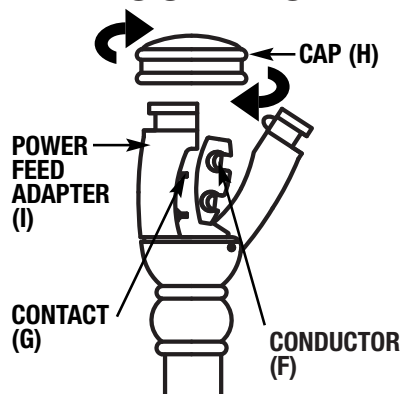

FIGURE 2
1. Attach mounting bar (A) to outlet box using outlet box screws (not supplied).
2. Make wire connections with wire nuts or other UL recognized wiring device. White power feed wire to white house supply wire. Black power feed wire to black house supply wire. Wrap the house ground wire around the green grounding screw (K) on the mounting bar (A) and secure by tightening the green grounding screw (K). Make sure no wires are left exposed and carefully tuck wires into outlet box.
3. Slide canopy (E) over outlet box and secure by threading retaining ring (C) to canopy (E).
4. Loosen screw on swivel joint (D) and adjust power feed so it hangs perpendicular to the floor. Tighten screw on swivel joint (D) to set in place. We recommend using a level to set power feed properly.
5. Unthread cap (H) from power feed adapter (I). Install rail into rail adapters so conductors (F) face contacts (G) of power feed (see Fig 2). **\*Please make sure contacts (G) fit into the rail conductors (F) properly.** NOTE: If power feed or support adapters are not able to close around rail, turn rail around so rail fits properly (see fig. 2).
6. Close the hinged side of power feed adapter over rail. Use a phillips head screw driver to tighten ground screw (located on power feed adapter (I)) into rail. Thread cap (H) back onto power feed adapter (I).